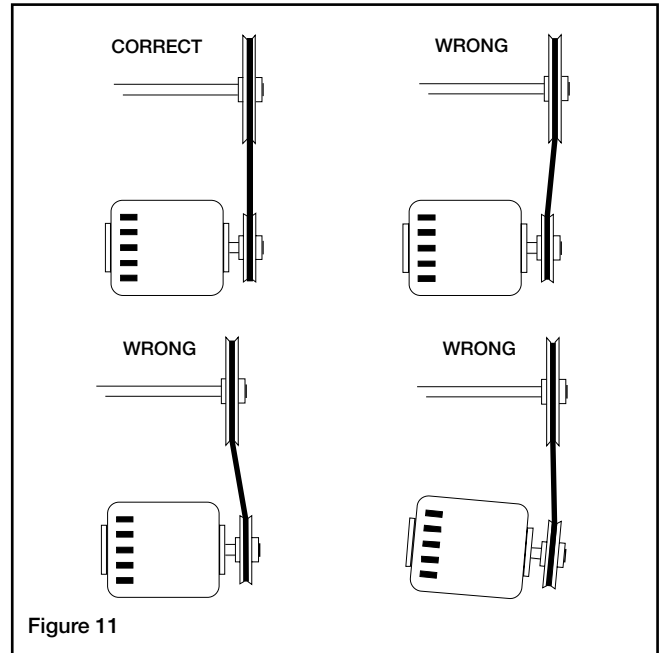

Figure 11
4. **For BSQ Fans:** If adjustments are made, it is very important to check the pulleys for proper alignment. Misaligned pulleys lead to excessive belt wear, vibration, noise, and power loss. (see Figure 11).